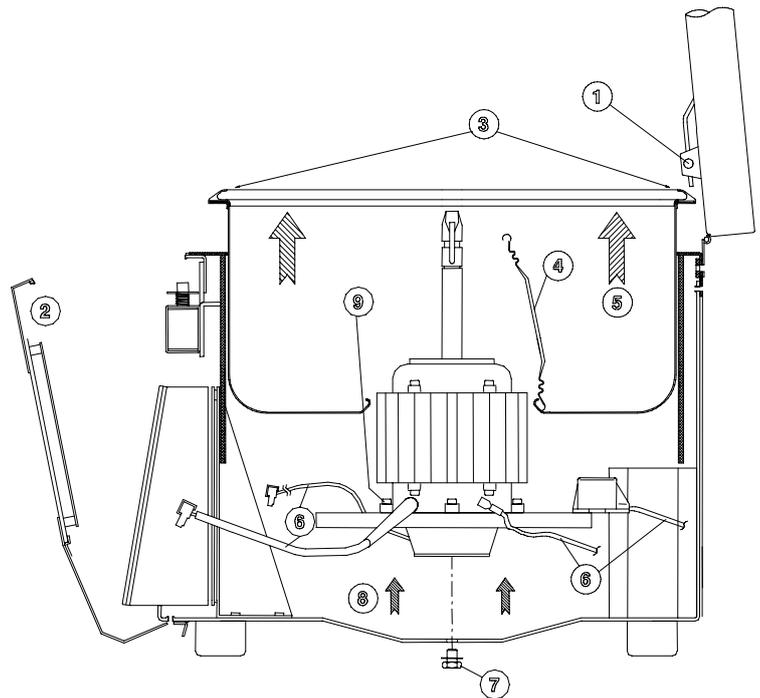

Fig. 11
Lid replacement (see Fig. 11)
Centrifuge bowl removal (see Fig. 11)
Motor replacement (see Fig. 11)
- Remove the front panel unscrewing the five screws (see Fig. 11) and disconnect:
3. Unscrew the four Phillips screws①.